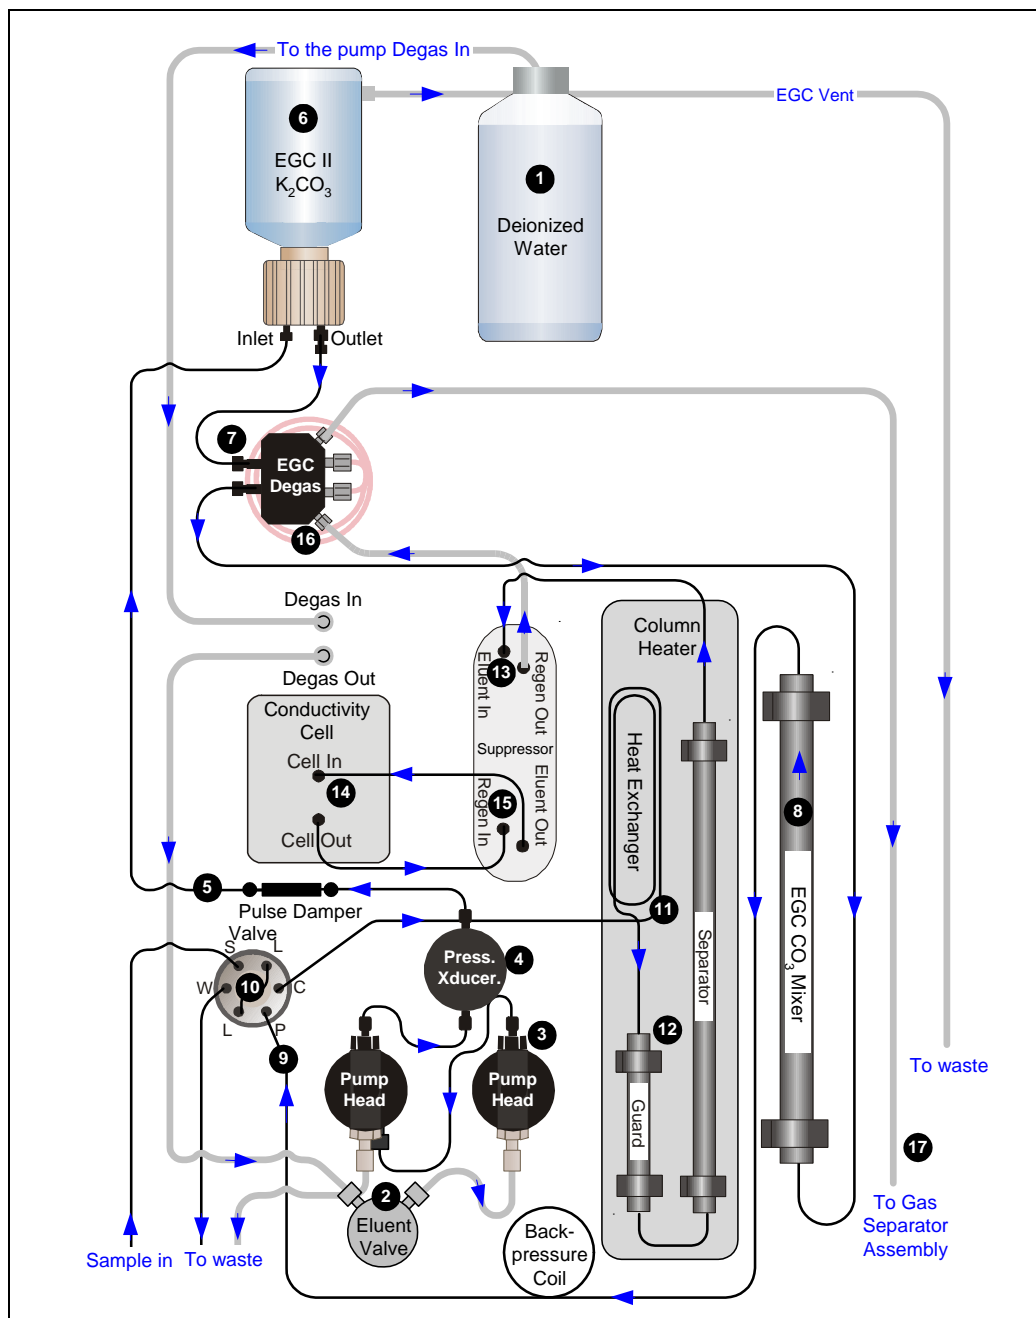

Figure 2-15. ICS-2000 Flow Schematic: Carbonate Eluent Generation
- Figure 2-15 illustrates the liquid flow path when the components required for producing carbonate eluent are installed. The required components include an EGC II K₂CO₃ EluGen Cartridge and an EGC CO₃ Mixer.
Refer to Figure 2-15 for the flow path number locations.